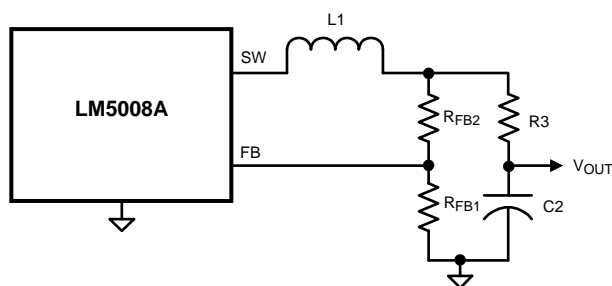

Figure 11. Alternate Minimum Output Ripple
c) Alternate minimum ripple configuration: The circuit in Figure 11 is the same as that in the Block Diagram, except the output voltage is taken from the junction of R3 and C2. The ripple at V_{OUT} is determined by the inductor's ripple current and C2's characteristics. However, R3 slightly degrades the load regulation. This circuit may be suitable if the load current is fairly constant.